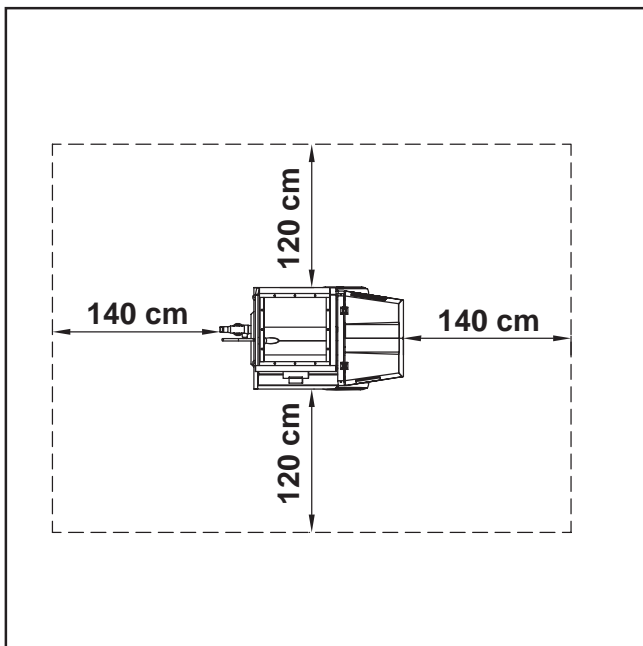

FIG.08
**Be sure to leave a passageway all around the machine (FIG.08) clear of any obstacles and with no holes or hazardous projections.**